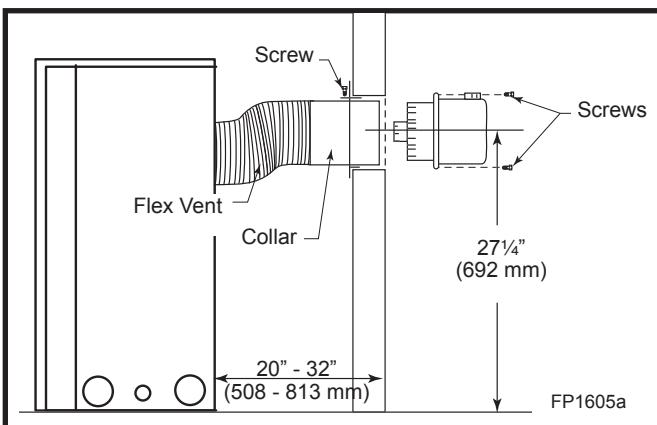

Fig. 25 The centerline of the termination must be 27½" (692 mm) off the floor.
- Determine where the termination is to be installed. (Fig. 25)